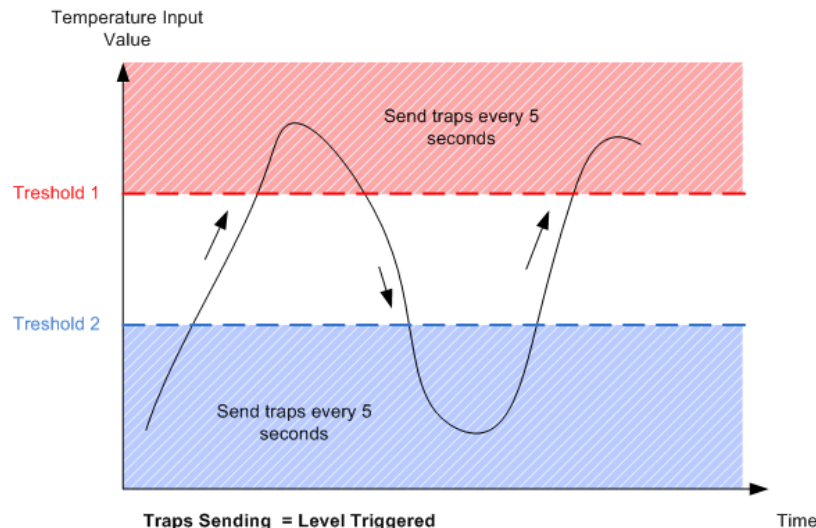

Figure 45. Sending tarps with **Traps Sending** = "Level Triggered"
- If **Traps Sending** parameter from web page "**SNMP Traps Settings**" is set to "**Level Triggered**" and if the Temperature Input value is less or equal than **Low Threshold** or greater or equal than **High Threshold** traps will be sent every 5 seconds (Fig. 45);